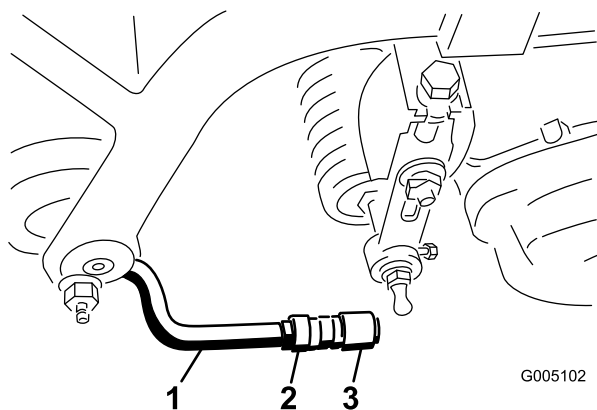

Figure 13
6. Align the sockets in the ball joints so the open side of the socket is centered towards the ball stud. Tighten the jam nuts to secure the sockets in position (Figure 13).